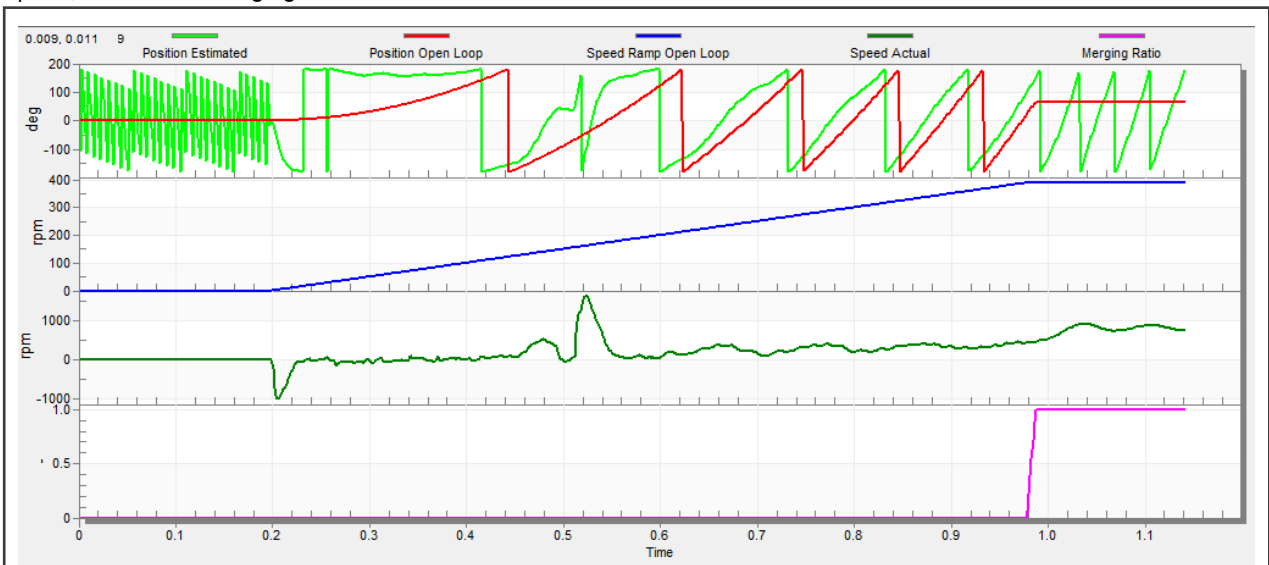

Figure 35. Motor startup
1. The start-up process can be tuned by a set of parameters located in the “Sensorless” tab. Two of them (ramp increment and current) are accessible in both tuning modes. The start-up tuning can be processed in all control modes besides the scalar control. Setting the optimal values results in a proper motor startup. An example start-up state of low-dynamic drives (fans, pumps) is shown in Figure 35.